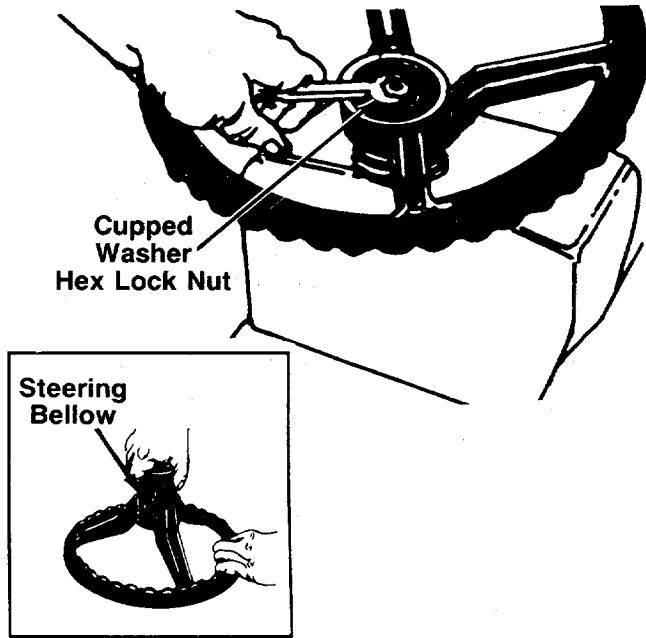

FIGURE 4.
2. Attach one end of steering bellow to the steering wheel as shown in figure 4, inset.
5. Place the washer with the cupped side down over the steering shaft. Secure with 5/16" hex lock nut. See figure 4.